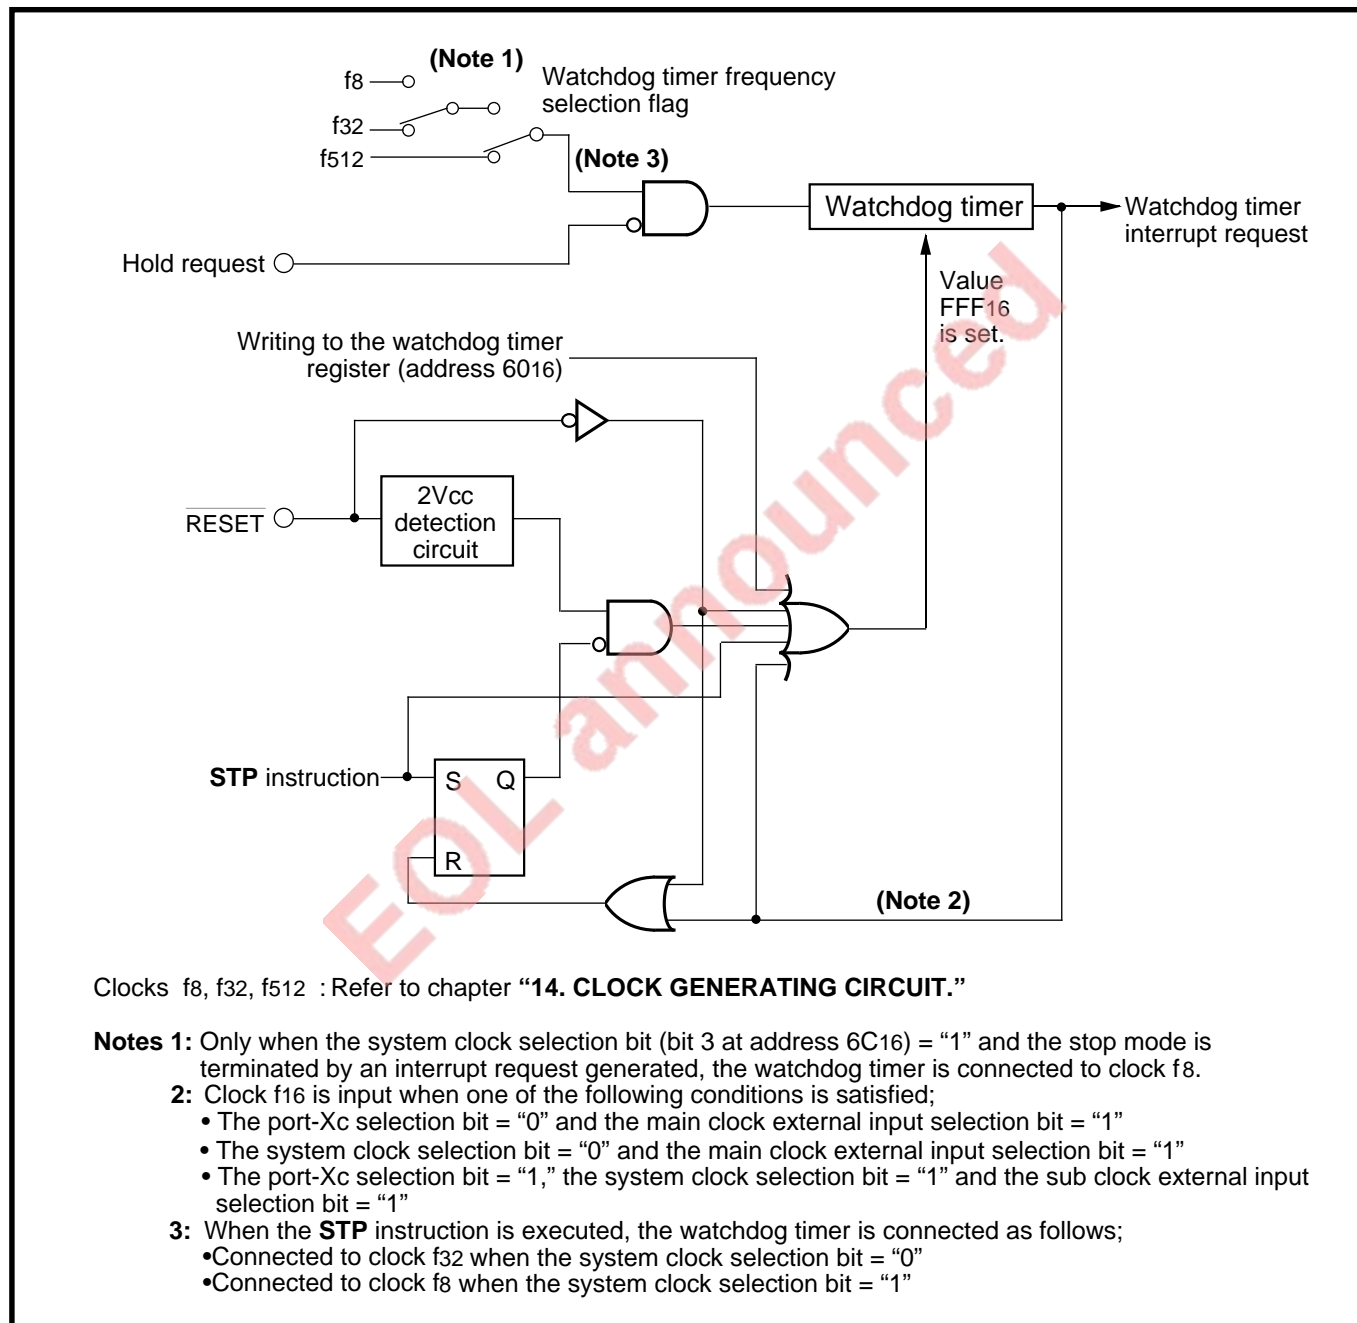

Fig. 10.1.1 Block diagram of watchdog timer
Figure 10.1.1 shows the block diagram of the watchdog timer.
2. In order to stop the watchdog timer in the hold state, the count source which is actually counted by the watchdog timer is the logical product of two signals. One is the inverted signal input from pin  $\overline{\text{HOLD}}$ , and the other is a count source which is selected by the watchdog timer frequency selection flag (clock f32 or f512). (Refer to **Figure 10.1.1.**) Accordingly, there is a possibility that counting is performed when pin  $\overline{\text{HOLD}}$ 's input signal level changes during a duration which is shorter than 1 cycle of the selected count source (clock f32 or f512).